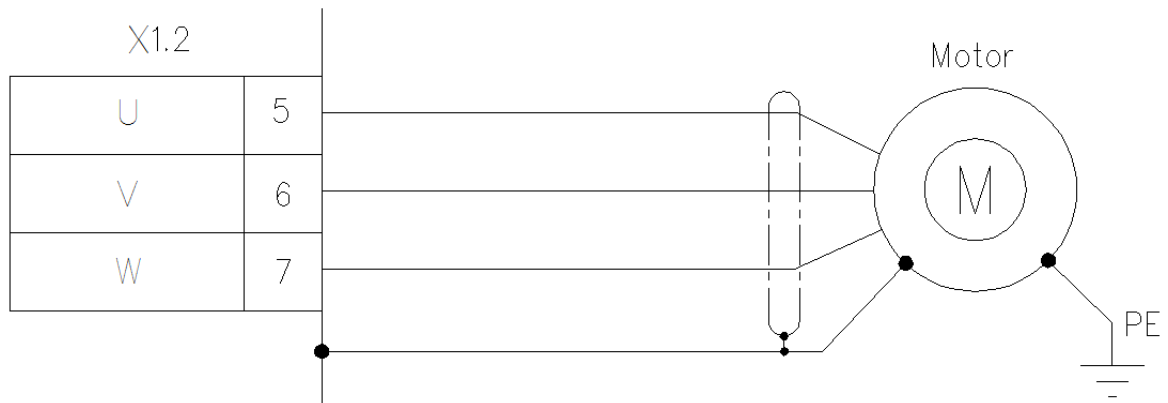

Fig. 2: Motor power wiring details.
2. Connect the motor power (X1 connector) according to Fig. 2.